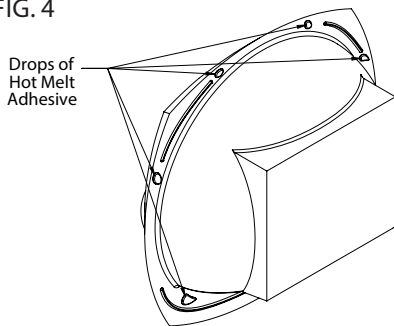

FIG. 5
6. Immediately position the dish in the wall cavity, making sure the dish is level. Remove any excess adhesive with de-natured alcohol. Secure the soap dish to the wall with tape, until the adhesive cures. *See Figure 5.*